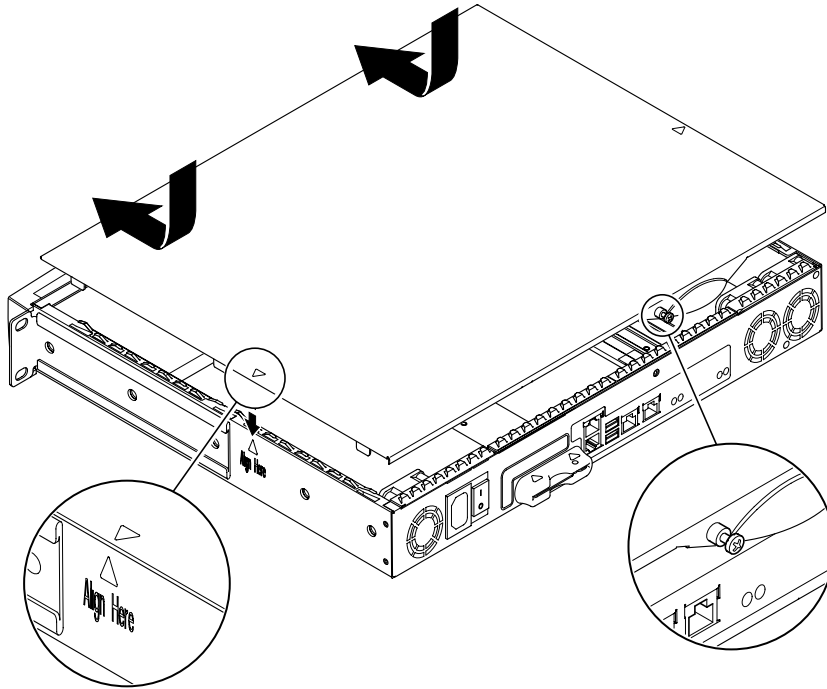

FIGURE 10-4 Replacing the Top Cover
6. Replace the system cover and tighten the captive screw (see FIGURE 10-4).